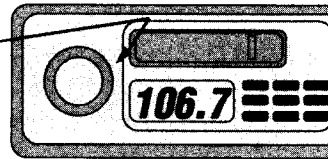

Figure 5 - Head Unit
2. Adjust the volume control on your source unit to approximately 5/8 to 3/4 volume setting. (See Figure 5)